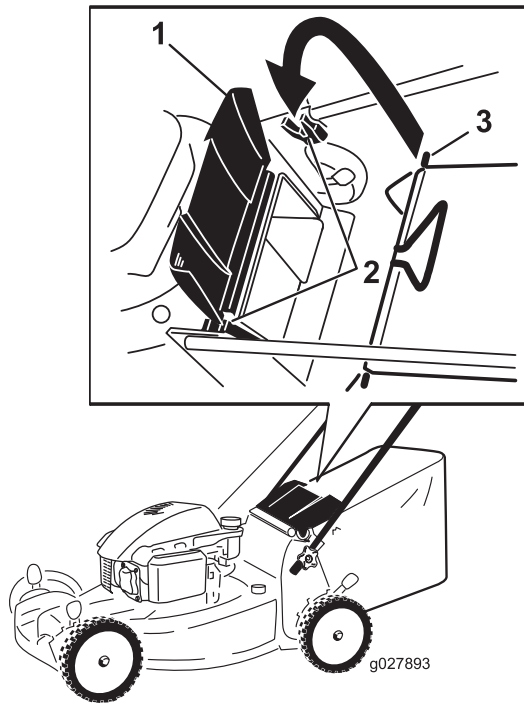

Figure 17
1. Raise and hold up the rear deflector (Figure 17).
2. Install the grass bag, ensuring that the pins on the bag rest in the notches in the handle brackets (Figure 17).